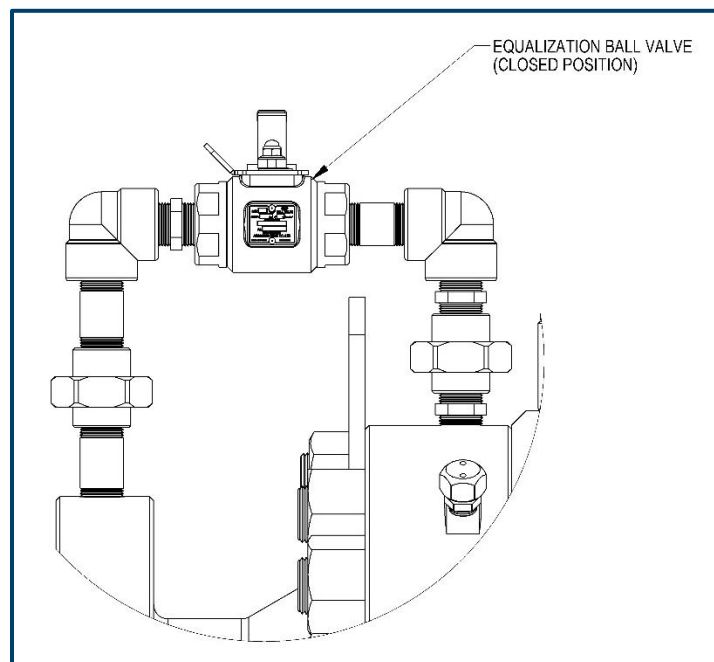

Figure 3: Argus External Equalization Line
4. Ensure the equalization valve is set to the closed position (see Figure 3), preventing accidental operation during the pigging operation.
17. Equalize cavity pressure with the external equalization valve (see Figure 3). Turn equalization valve to the open position to energize cavity. Close the equalization valve once the valve cavity has been energized, which is usually indicated by an audible change in flow through the equalization valve.
4. Ensure equalization valve is in the closed position (see Figure 3), preventing accidental operation during the pigging operation.